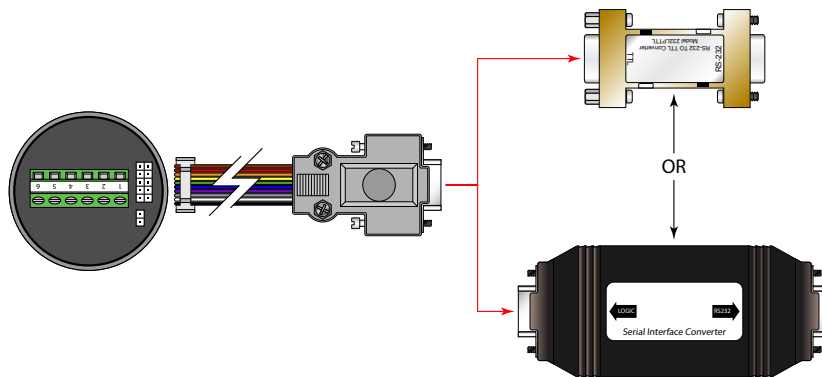

Figure 5: Interface connection
2. Connect the serial-to-TTL converter to the adapter cable. See *Figure 5*.